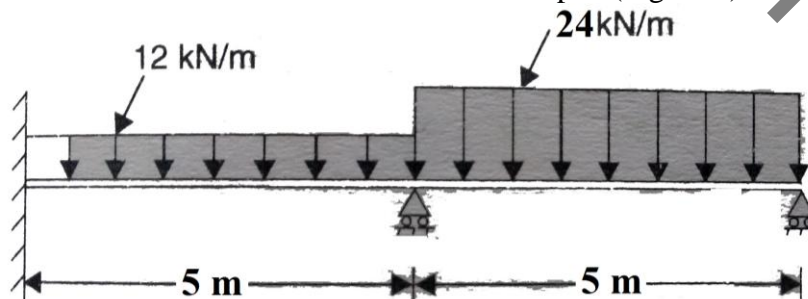

Figure 2
4. Determine the end reactions and deflection at mid span (Figure 2). [15]